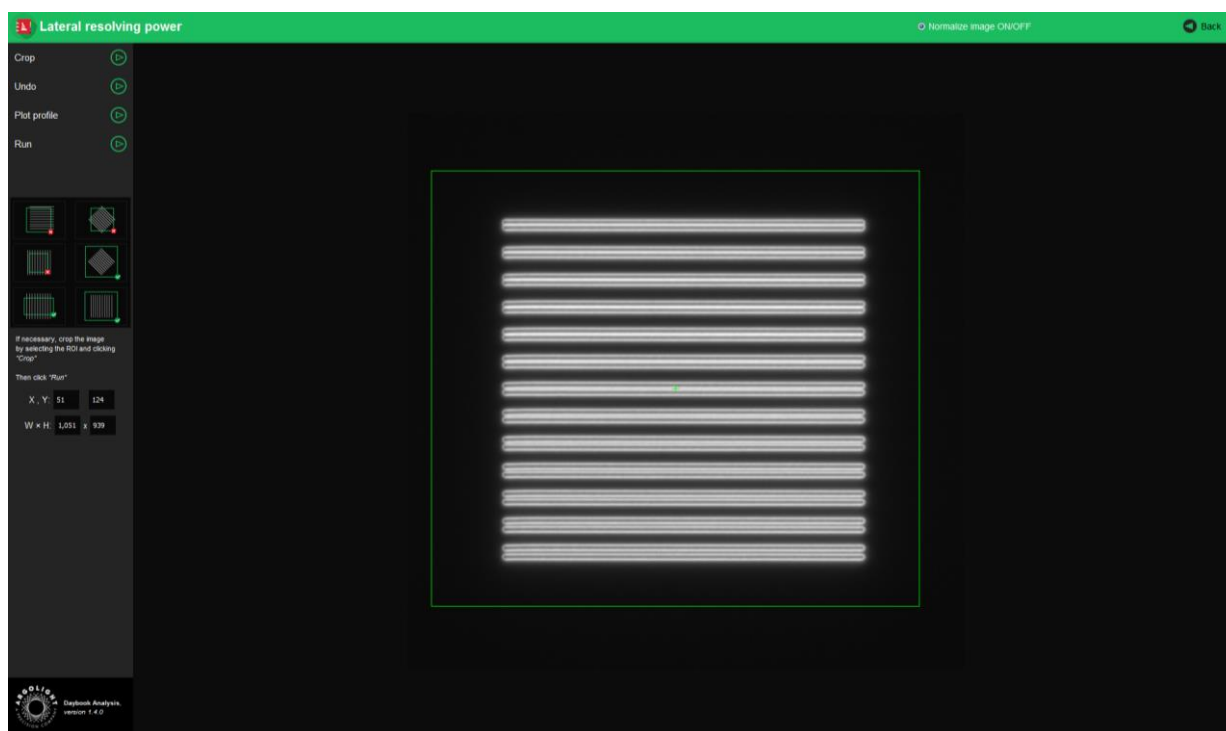

Figure 2: Crop window.
- If needed, select a region of interest (ROI) and click on “Crop” to crop the image (*cf.* Figure 2).